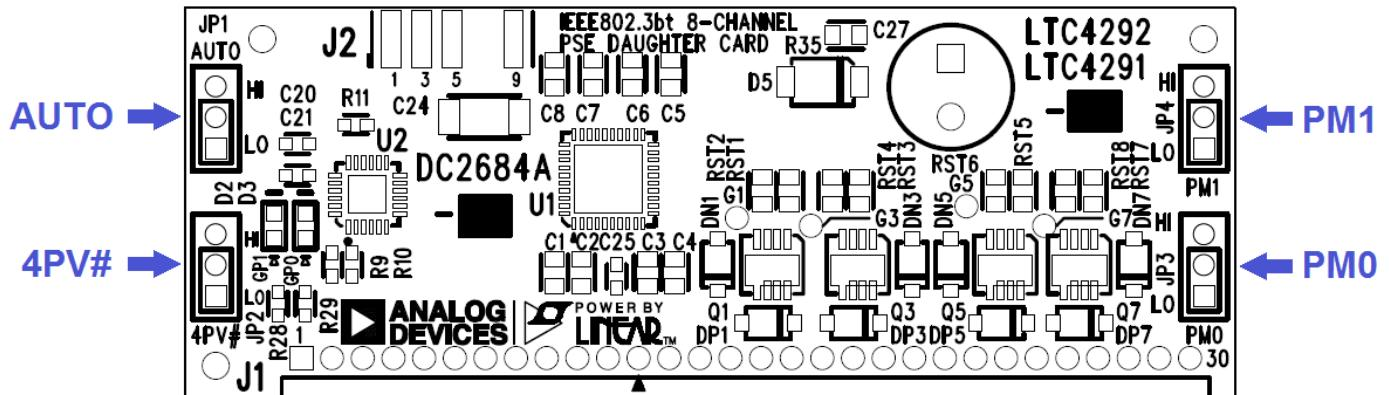
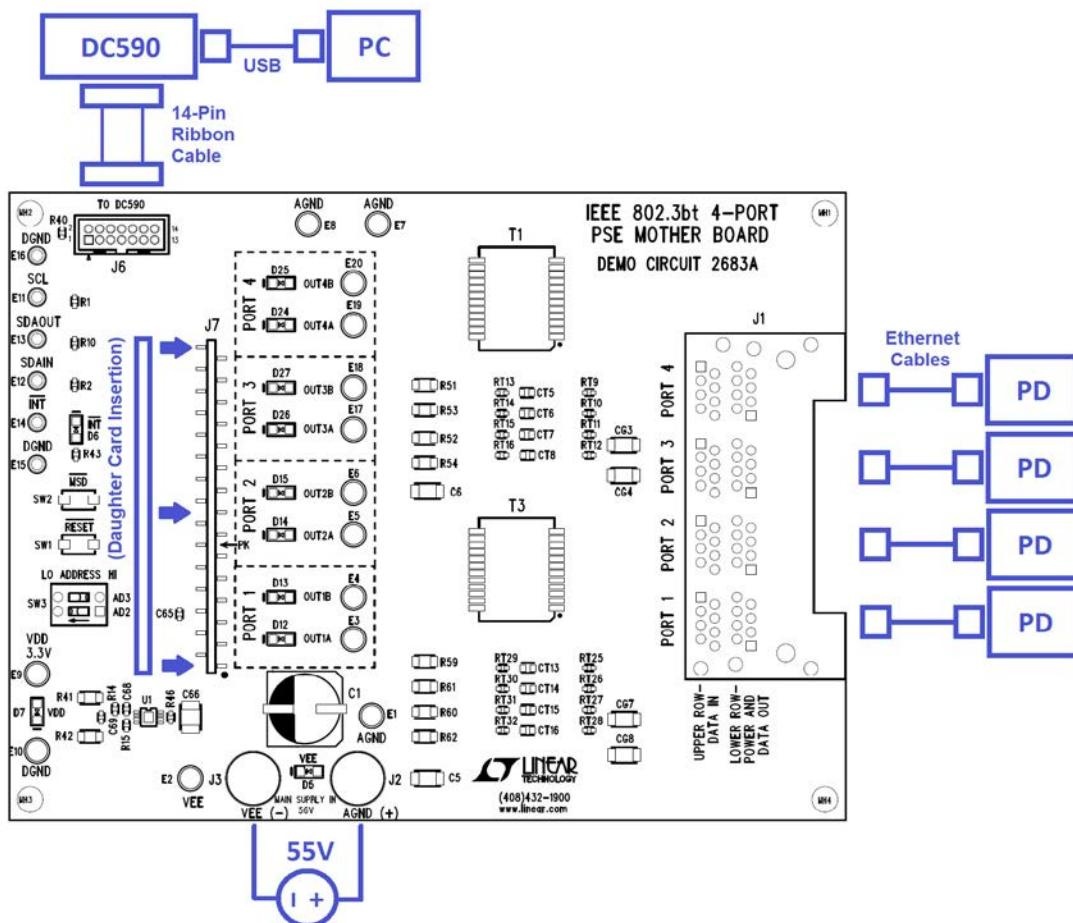

Figure 1. DC2684A-B Jumpers: AUTO, 4PV#, PM0 and PM1
Figure 3. DC2685B Kit Connections
Follow the quick start procedure below for basic operation of the DC2685B kit. Refer to Figure 1 through Figure 3 and Table 1 through Table 4 for proper equipment setup.
1. On the DC2684A-B daughter card set AUTO jumper JP1 (Figure 1) to a selected AUTO mode setting shown in Table 1.
2. On the DC2684A-B daughter card set 4PV# jumper JP2 (Figure 1) to a selected 4-Pair Valid setting as shown in Table 1.
3. On the DC2684A-B daughter card set PM1 jumper JP4 and PM0 jumper JP3 (Figure 1) to the power mode for evaluation specified in Table 2.
5. Connect a supply to the motherboard with the positive rail to AGND (+) and negative rail to V_{EE} (-) as shown in Figure 3. Use a power supply capable of sourcing the maximum delivered power for all four ports set by JP3 and JP4 on the daughter card (or I²C configured power). Ramp the supply up to within the recommended voltage range specified in Table 3.
8. Connect the DC590 to the DC2683A at connector J6 with a 14-pin ribbon cable as shown in Figure 3 and open the QuikEval GUI. A GUI for the LTC4291-1/ LTC4292 is brought up by QuikEval. (Follow the DC590 demo manual instructions if this has not been previously setup.)
9. Connect up to four PDs to the DC2685B RJ45 connector J1, bottom row ports 1-4 as shown in Figure 3.
The V_{EE} supply is the main PoE supply and connects to the DC2683A with the positive rail to AGND (+) and the negative rail to V_{EE} (-) as shown in Figure 3 of the Quick Start Procedure. The voltage must be within the range shown in Table 3 depending on the application PSE type. For full load testing at each port, choose a power supply that is set with a current limit higher than the maximum allowed output power at each port.